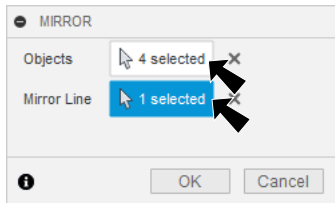

Fig. 20
Step 15. In the Mirror panel set, **Fig. 20**